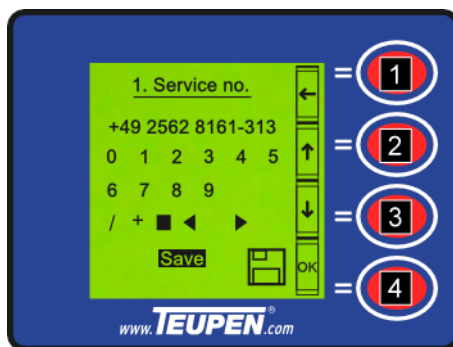

Fig. 74: Saving the service number
4. Use the [function keys] (Fig. 74/2 and 3) to set the cursor to "save".
5. Use the [function key] (Fig. 74/4) to confirm the setting.
6. Use the [function key] (Fig. 74/1) to return to the [Setting] menu.